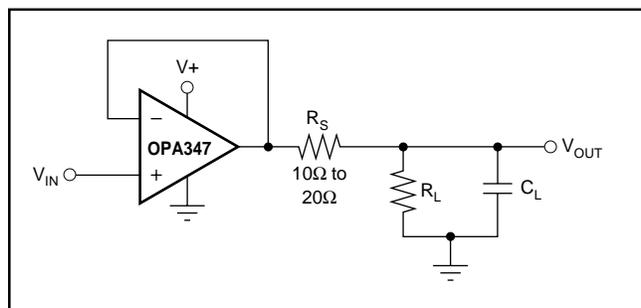

FIGURE 6. Series Resistor in Unity-Gain Buffer Configuration Improves Capacitive Load Drive.
The OPA347 in a unity-gain configuration can directly drive up to 250pF pure capacitive load. Increasing the gain enhances the amplifier's ability to drive greater capacitive loads (see the characteristic curve Small-Signal Overshoot vs Capacitive Load). In unity-gain configurations, capacitive load drive can be improved by inserting a small (10 Ω to 20 Ω) resistor, R_S, in series with the output, as shown in Figure 6. This significantly reduces ringing while maintaining Direct Current (DC) performance for purely capacitive loads. However, if there is a resistive load in parallel with the capacitive load, a voltage divider is created, introducing a DC error at the output and slightly reducing the output swing. The error introduced is proportional to the ratio R_S/R_L, and is generally negligible.